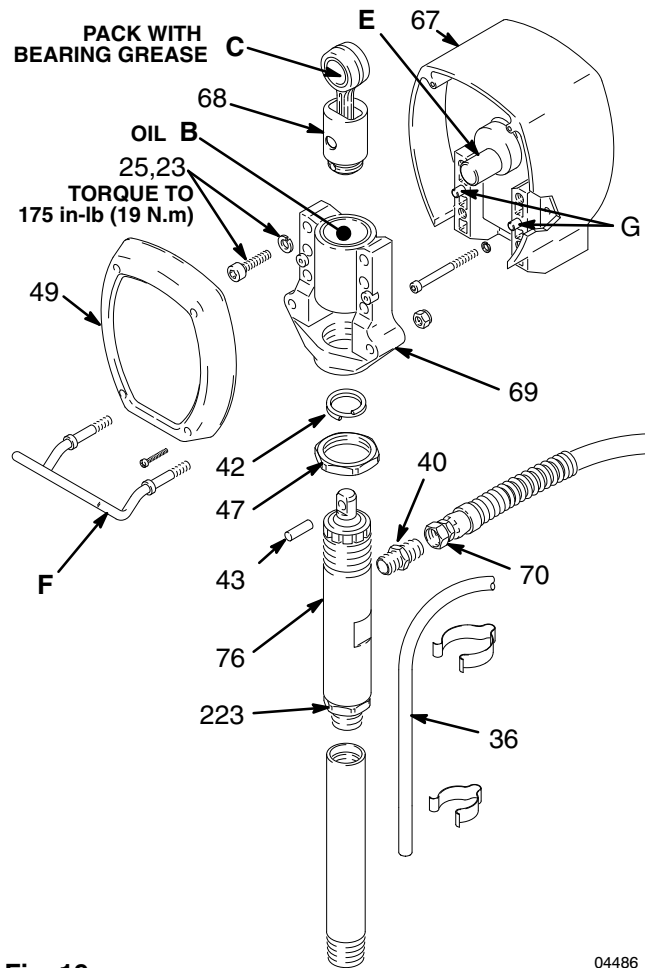

Fig. 19
# Bearing Housing and Connecting Rod Replacement (Fig. 19)
14. Install the remaining parts. See Fig. 19.